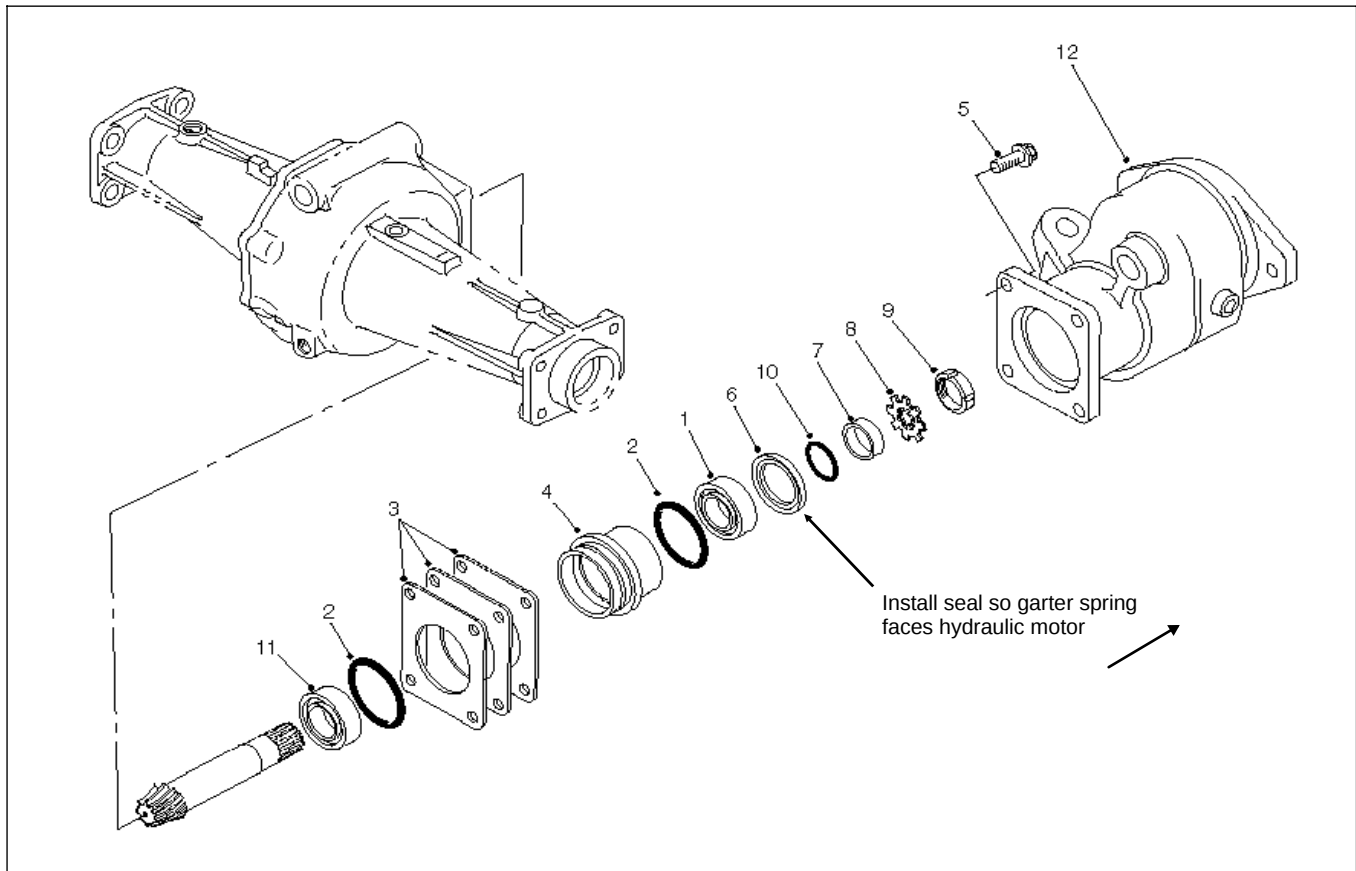

Figure 29
2. Remove bolts (Fig. 29, Item 5) securing adapter to axle housing and remove adapter.
1. Remove sleeve (Item 4) from adaptor case. Straighten tab washer (Fig. 29, Item 8) and use special tool TOR4040 to remove sleeve (lock) nut (Item 9).